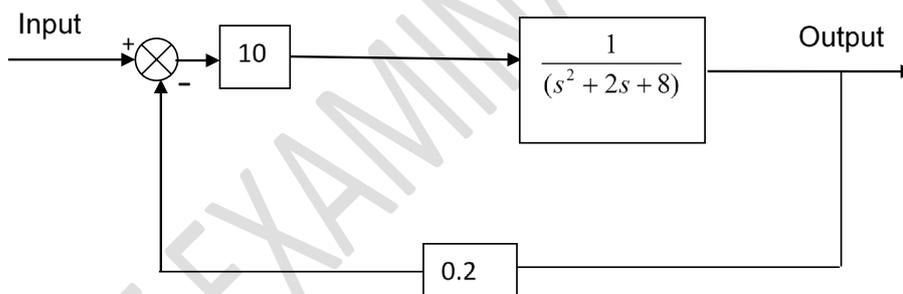

Figure Q5 Manufacturing Control System
- c) In a different part of your company, the manufacturing control system is described by **Figure Q5**. Simplify the block diagram to a single open-loop process. If a unit step input is applied into the system, determine the system's percentage overshoot, rise time, settling time, peak time, natural frequency, damped frequency, and damping ratio.